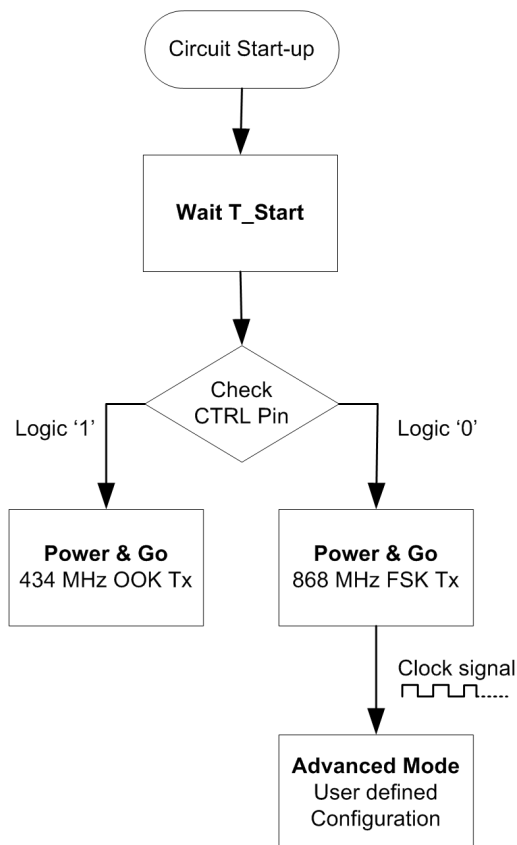

Figure 3. SX1240 Mode Selection
The SX1240 has two application modes. These are selected depending upon the load presented to the Control pin (6) at power-on of the device, as shown on Figure 3. By connecting the Control pin to logical '0' or '1' the Power & Go mode is selected. A full description of operation in this mode is given in Section 3.1. By presenting a logical zero to the Control input, Advanced Mode can be accessed by subsequent clocking of the control pin, in conjunction with the Data pin (2) permits programming of the SX1240 configuration register and manual control of the transmitter. For more information on Advanced Mode operation please consult Section 3.2. The diagram below summarises the mode selection process.
Advanced mode can be accessed as described on Figure 3. Programming is performed via a two wire interface (TWI) formed by CTRL and DATA pins.
When powering up the circuit (microcontroller and SX1240), the logic level of the CTRL pin is sampled after T_START , as described on Figure 3. During T_START , the microcontroller IO driving the CTRL pin must be configured as an output, driving the CTRL pin to the desired state.